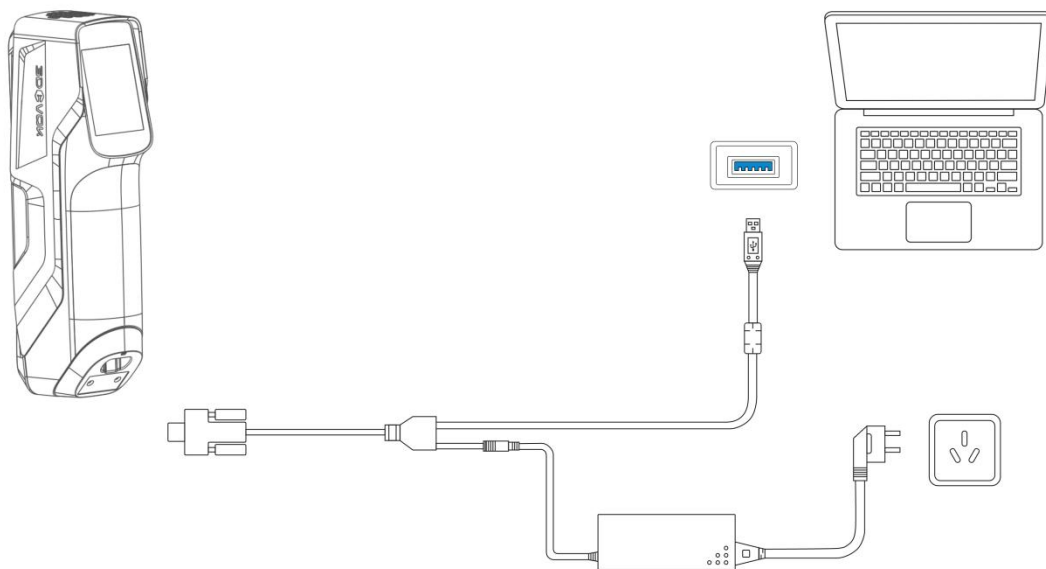

Figure 4-8 Device-to-PC and Power Supply Connection
3. The connection of device, data cable, power adapter, power cable, and PC is shown in Figure 4-8.